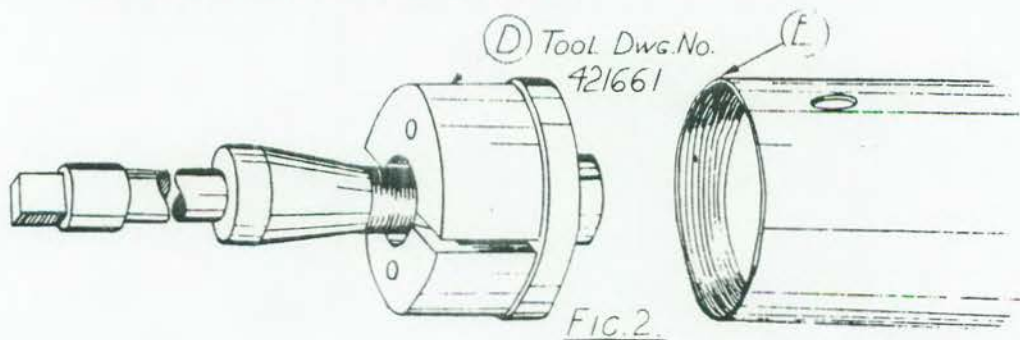

FIG. 2
(25) INSERT (D), FIG. 2, IN JACKET (E) DIRECTLY UNDER THE DENT. BY FORCING (D) AGAINST THE WALLS OF JACKET AND HAMMERING ON THE OUTSIDE, MOST DENTS CAN BE REMOVED. * COAT THREADS OF JACKET AND TRUNNION BLOCK WITH SOLDER. CONTINUE HEATING. NOW SCREW TRUNNION BLOCK INTO JACKET AND TIGHTEN UP TO THE ALIGNMENT MARK.
*NOTE: BOTH THE CLEANING AND STRAIGHTENING TOOLS (A) AND (D) ARE INSERTED IN EACH END OF THE JACKET.